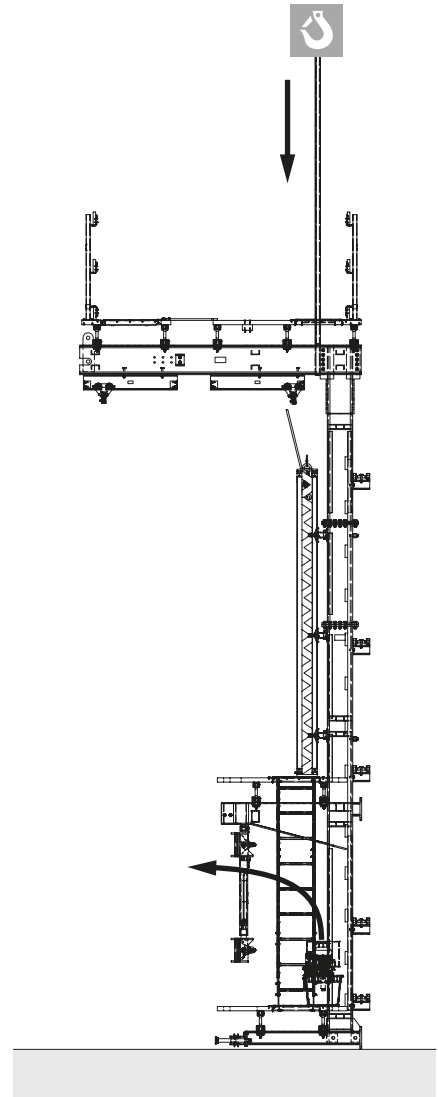
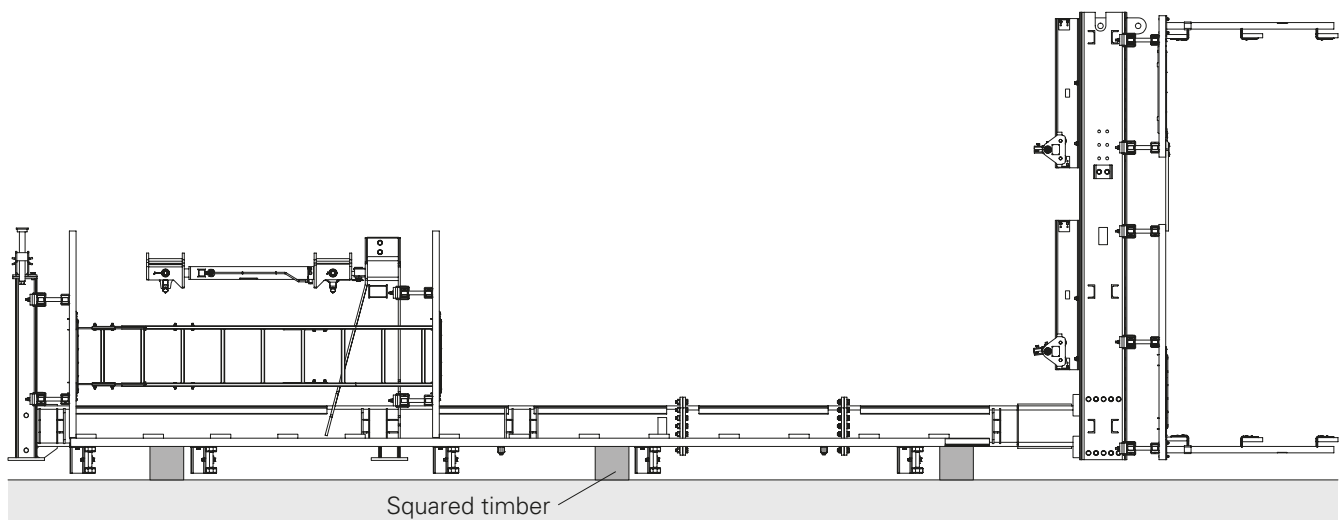

Fig. E3.02
Fig. E3.03
3. Lift out the hydraulic unit. (Fig. E3.02)
5. Remove the climbing devices (140).
11. Attach the work platform (level 0) to the crane, unscrew it from the console bracket and dismantle. (Fig. E3.03)